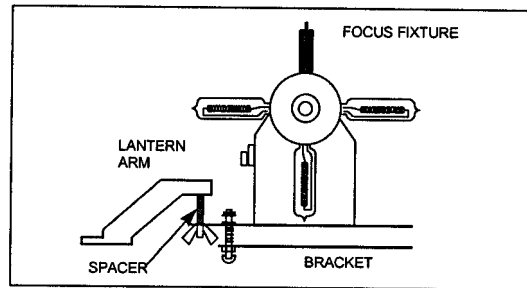

Figure 2-7
- s. Install the lampchanger/flasher (if used) assembly onto the studs of the lantern arms, as shown in Figure 2-7. Tighten the wing nuts to secure.